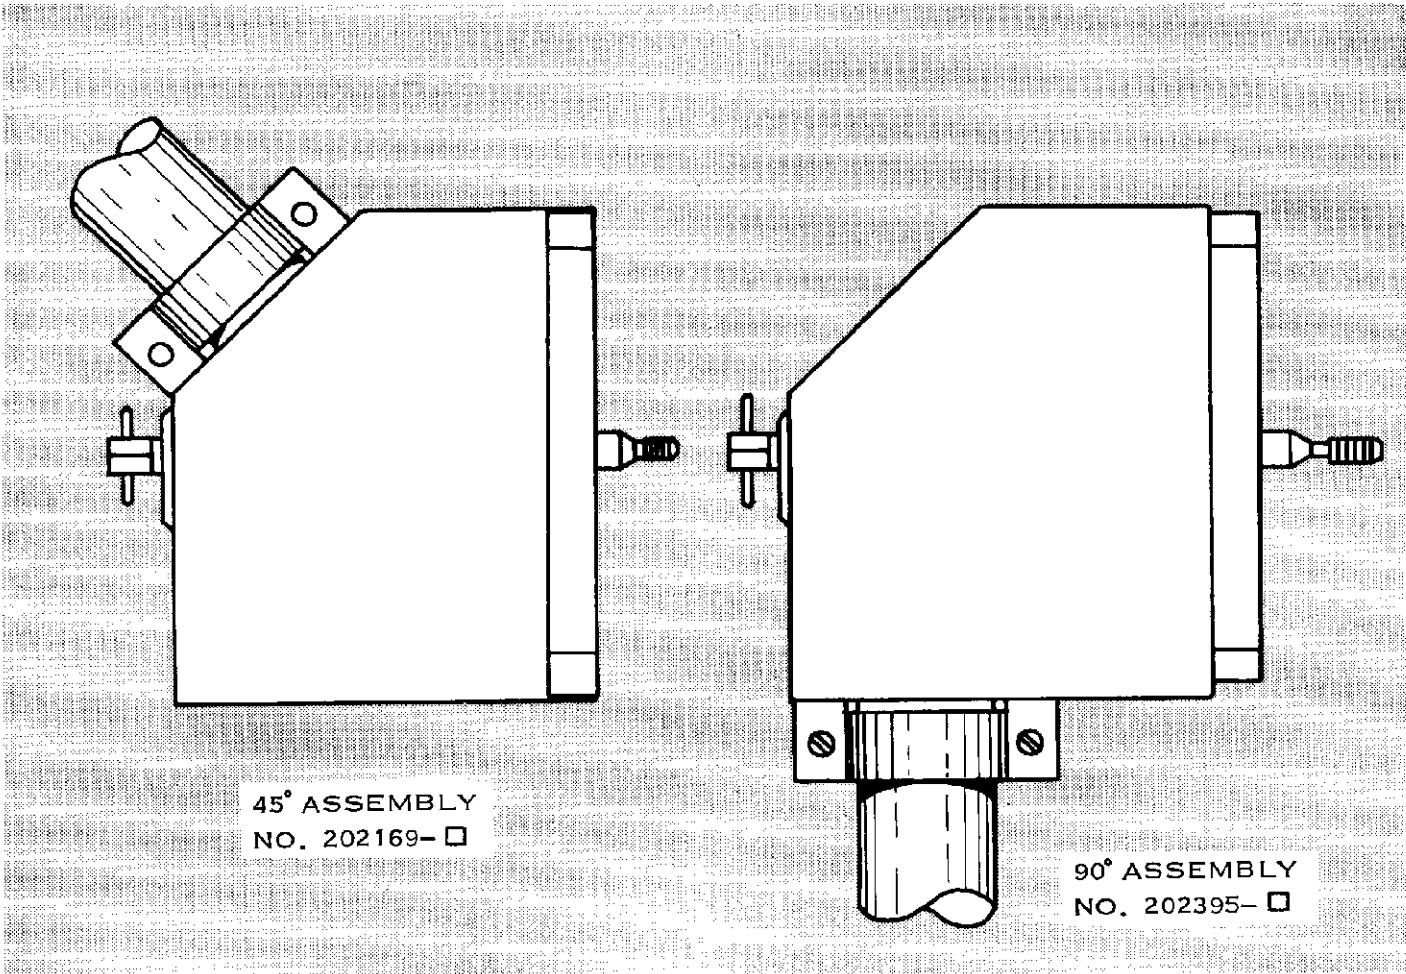

Fig. 4
7. See Figure 4 for completed 45° and 90° Shield Assemblies.